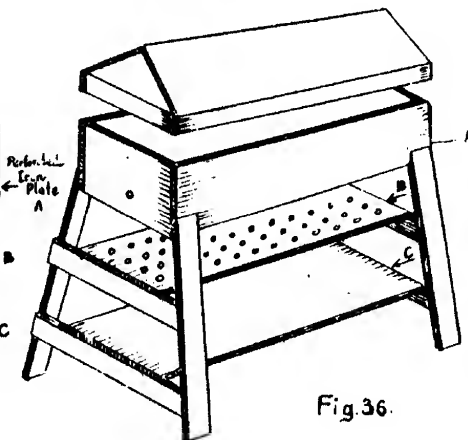

Fig.36.
and with a  $\frac{1}{4}$ " bit bore 5 rows of holes 2" apart and beginning 2" from the sides and ends. This will make 100 holes through the boards (B). Now make a box, the bottom of which is made of one of the boards with holes through it as shown in FIGURE 36 (A) PLATE III. Attach four legs to the box, about  $4\frac{1}{2}$  feet long. At  $1\frac{1}{2}$  feet from the bottom secure the other board with the holes in it, (B) so that a rocket passed through a hole in the box bottom may be steadied by passing through corresponding hole in lower one. Fit the third board (C), in the legs also, about 6" from the ground to make a resting place for the rocket sticks and so as to hold the bottoms of the rockets in box, about one inch above bottom board (A) of box. This is to permit the fire to reach all the rockets instantly when flight is lighted.